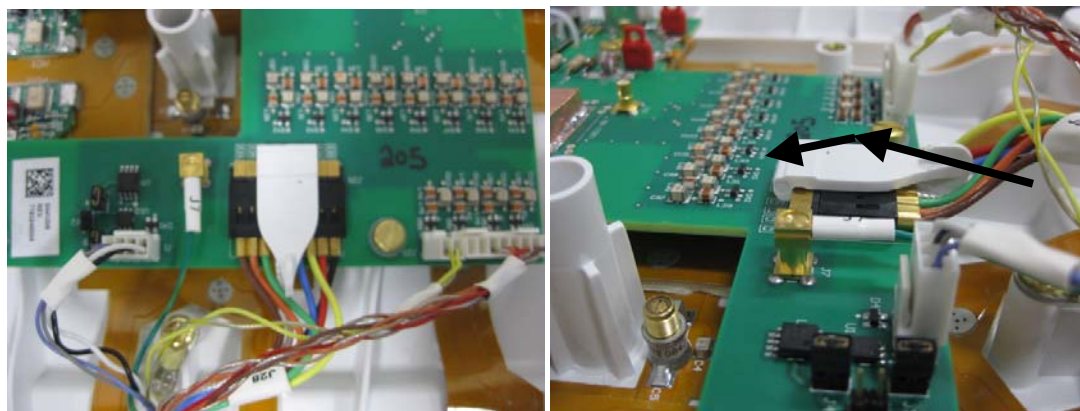

Figure 55: Attach cables to TL feedboard and re-install the cable
5.5.15 Attach cables to TL feedboard (Silkscreen on board matches cable). Re-install the cable clamp (Use black arrows for guidance) on the ganged connector (black connector). See Figure 55.